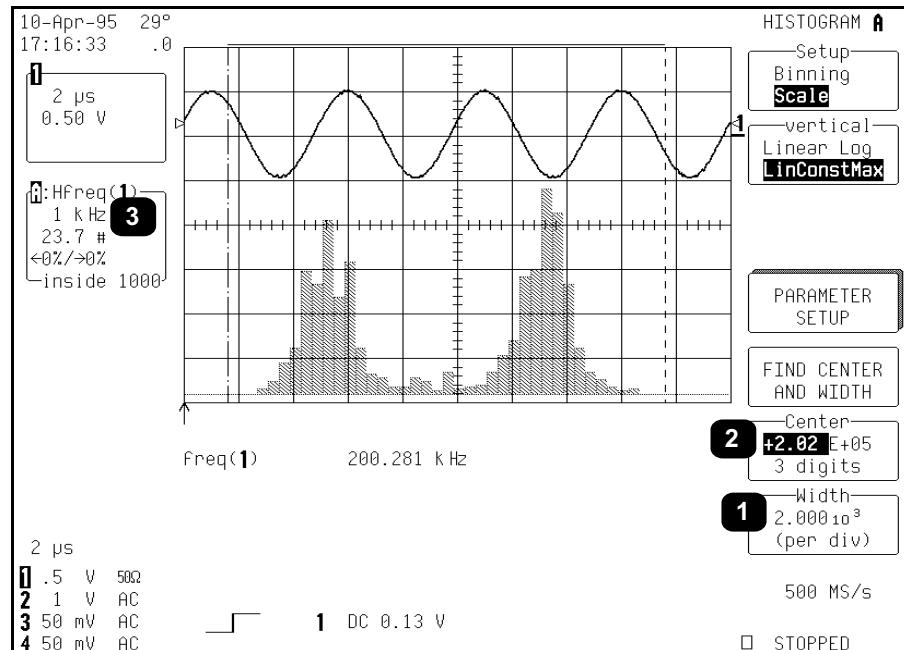

Figure 2.14
3. “LinConstMax” sets the vertical scaling to a linear value that uses close to the full vertical display capability of the scope (Fig. 2.14). The height of the histogram will remain almost constant.